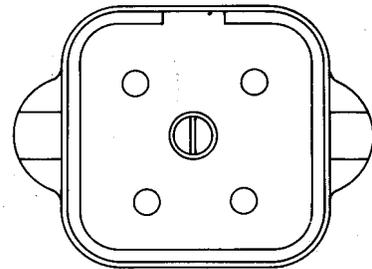

Fig. 18—423A Plug
2.18 **423A:** The 423A plug (Fig. 18) consists of a block of insulating material, containing four intermeshed coil spring contacts, and a cover. The block and cover may be furnished in a variety or combination of colors. This plug is designed to mate with the 505A- or similar-type plugs and is used with the 750A-type telephone sets.